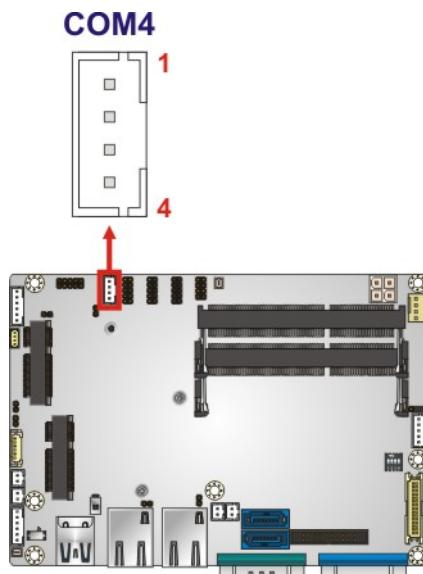

Figure 3-23: RS-422/485 Serial Port Connector Location
**CN Location:** See Figure 3-23